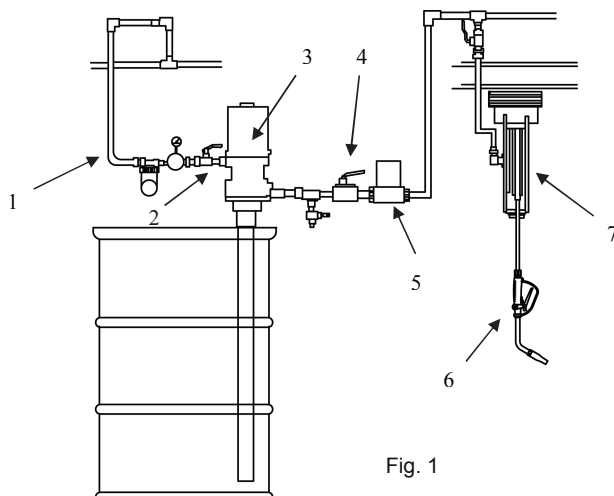

Fig. 1
Fig. 1 shows a typical installation.
The installation shown in Fig. 1 is only a guide. The components shown are typical; however, it is not a complete system design. Contact your distributor for assistance in designing a system to suit your particular needs.
1. Close the fluid shut-off valve (Item 4 in Fig. 1)